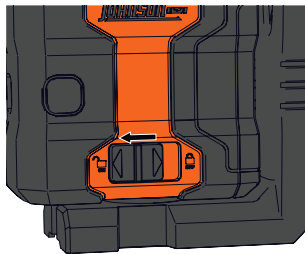

Figure 12
1. Slide the locking compensator/power switch to the left to the unlocked (ON)  position to power on the unit. The level indicator and power indicator will light up. (Figure 12)